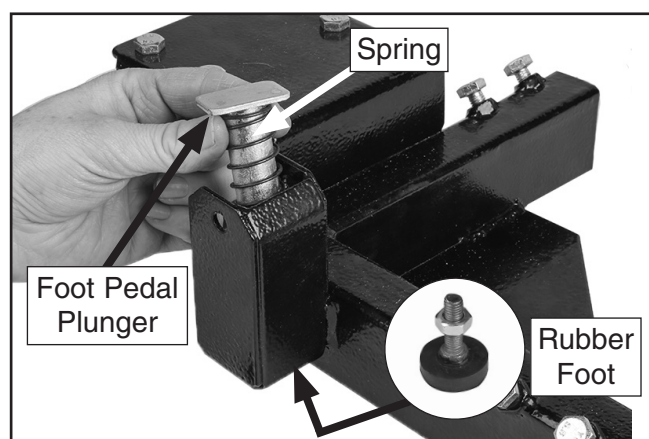

Figure 12. Installing foot pedal plunger and spring.
1. Install foot pedal plunger and spring into each front corner bracket (see **Figure 12**), and attach a rubber foot (with M10-1.5 hex nut) to the bottom of each foot pedal plunger.